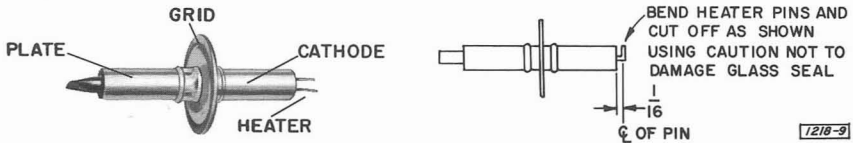

Figure 6-5. Element connectors of type-5675 tube used in the oscillator. Heater pins are shown prepared for installation.
- b. Bend and cut the heater pins as shown in Figure 6-5, or use the old tube as a model. Take care to avoid damage to the glass seal.